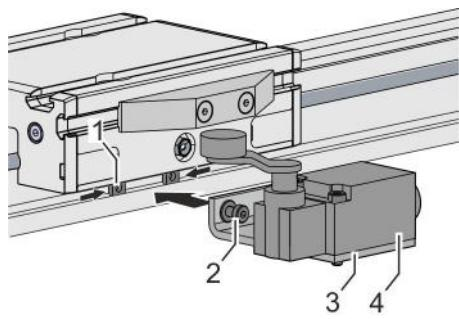

Fig. 33: Assembling the limit switch
4. → Insert and position the slot stones (Fig. 33/1) in the slot of the guide profile.
5. → Place the limit switch (Fig. 33/4) along with a mounting bracket (Fig. 33/3) at the height of the inserted slot stones.
6. → Tighten 2 screws (Fig. 33/2):